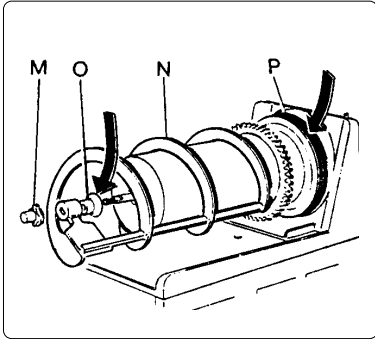
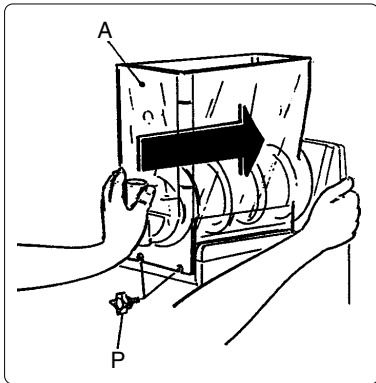

Fig. 16
Fig. 17
f) Reassemble the mixing unit, following these steps (see fig. 16):
- it is necessary that petroleum jelly be spread on the washer (O) to facilitate movement and seal;
- fit the washer (P) back into position;
- block all the components into place by turning the knob (M) in a counterclockwise direction.
g) Reassemble the tank (A) by positioning it back into its lodging, verifying that it faces in the correct direction and is held in place by its washer (see fig. 17), then re-insert the knobs (P).